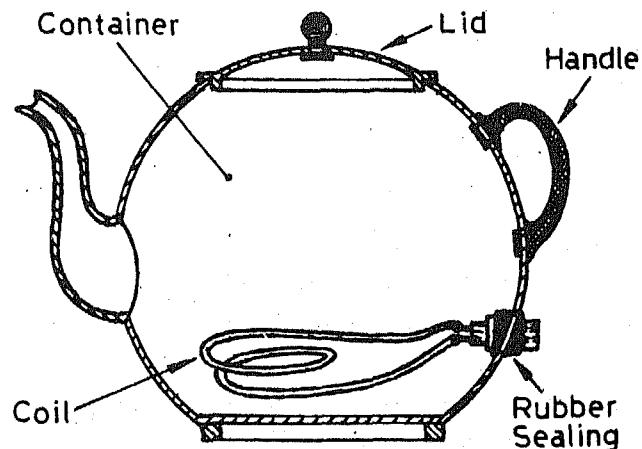

**Fig. 18.1 Electric Kettle ( Sauce Pan type)**
(Fig. 18.1). Take out the lower cover after disconnecting the element from the 3-pin socket.
- (iii) Keep the pressure plate over the asbestos sheet and tighten nut No. 2 (Fig. 18.1).
- (v) Keep the lower cover properly over the container and fix the nut No. 1 (Fig. 18.1). Now the kettle is assembled.